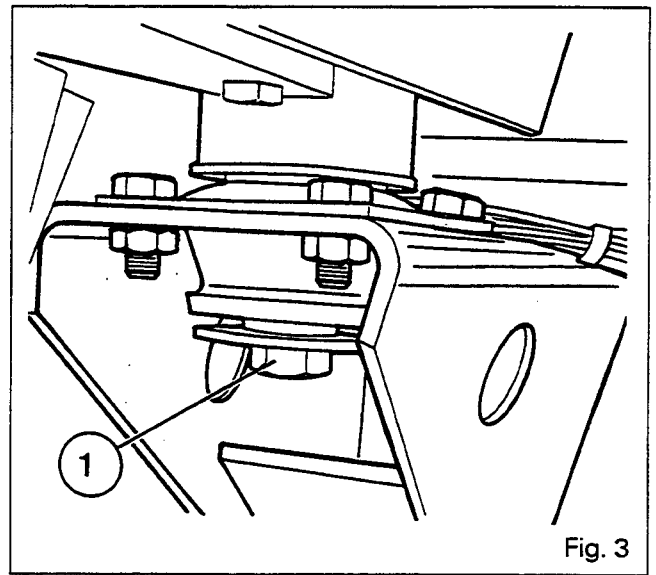

Fig. 3
- 19. Remove the bolts (1) from the right-hand and left-hand cab supports (Fig. 3). Raise the cab and fit wedges.